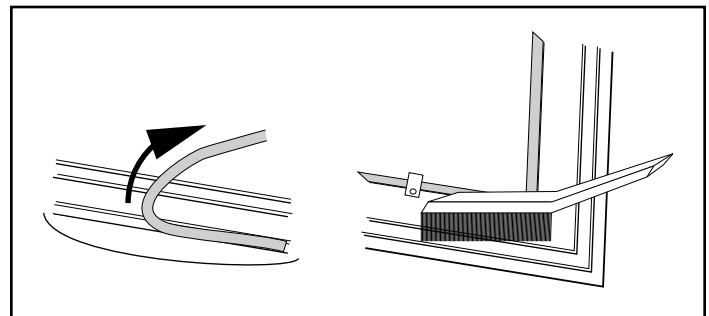

Figure 3.4 - Remove gasket then clean channel with wire brush.
1. Remove the existing gasket by grasping an end and pulling firmly, Figure 3.4.
- Use a wire brush or the tip of a screwdriver to clean the channel of any remaining cement or bits of gasket. Remove stubborn deposits of cement with a cold chisel if necessary, Figure 3.4.